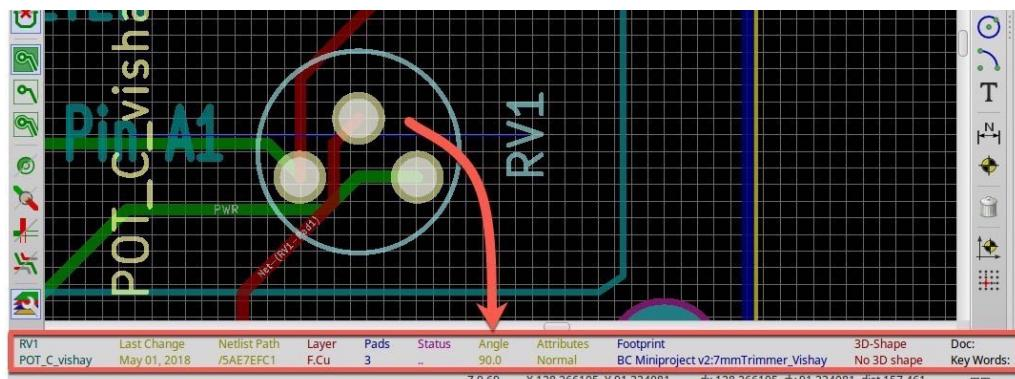

Figure 9.8: To see a footprint's details, click on it.
When you do a single left click on a footprint, the footprint's details are shown in the status bar, at the bottom of the Pcbnew window, like in the example in Figure 9.8.
In the example of Figure 9.8, I have left-clicked on the footprints of a potentiometer ('RV1'). In response, Pcbnew shows me the details of this footprint in the status bar, in the area inside the red box. From this, you can see the number of pads included in this footprint (3), its orientation (90 degrees from its default orientation), which library it belongs to ('BC Miniproj v2:7Trimmer_Vishay'), and more.